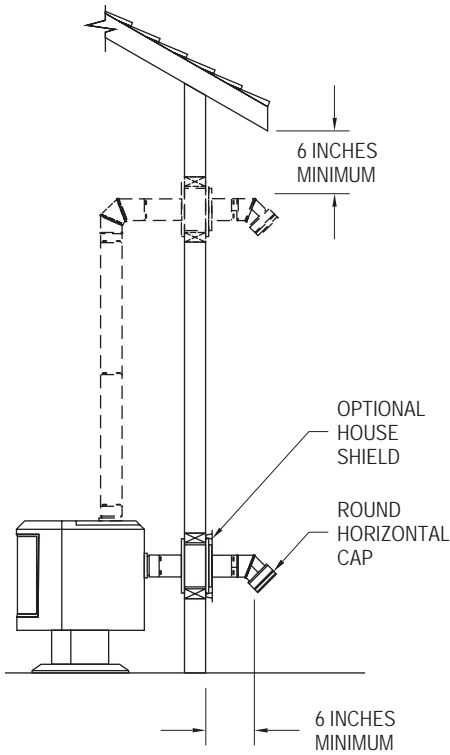

Figure 6
5. If the flue exit is on back of the stove, and a horizontal through-the-wall installation is desired (**Figure 6**):
B. Connect the Appliance Adapter to back of stove and attach sufficient pipe to penetrate Wall Thimble and extend at least 6" beyond the exterior wall. You may install the optional House Shield as shown in **Figure 6**. The House Shield is used to protect the exterior wall from vent discharge. Attach a Round Horizontal Cap. The Round Horizontal Cap can be swiveled to be directed away from nearby objects (fence, plants, etc.), but must still be pointing in a generally downward direction.